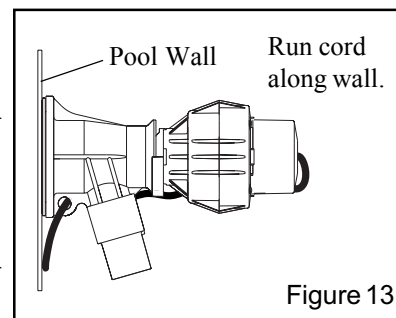

Figure 13.
4. Route cord through the cord hole in the body; see Figure 13.
19. Snap cap onto end of body so that the electrical cord is pointing down; see Figure 13.